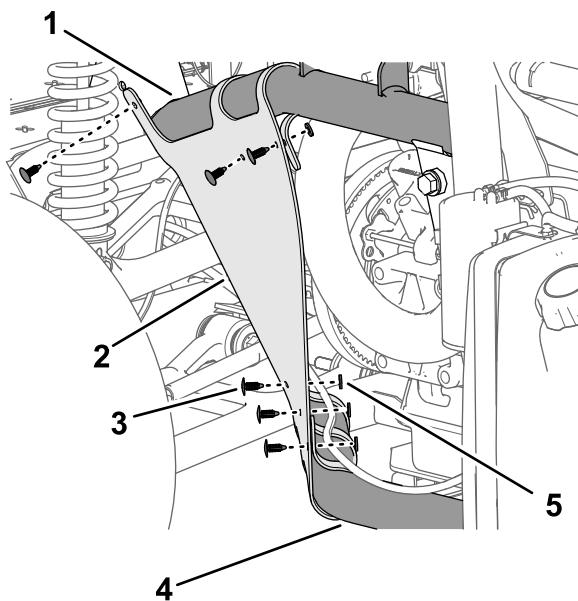

Figure 215
2. Secure the inner-fender shroud to the frame tubes with the 6 push-in fasteners (Figure 215).
3. Align the holes in the fender with the holes in the frame of the machine as shown in Figure 215.